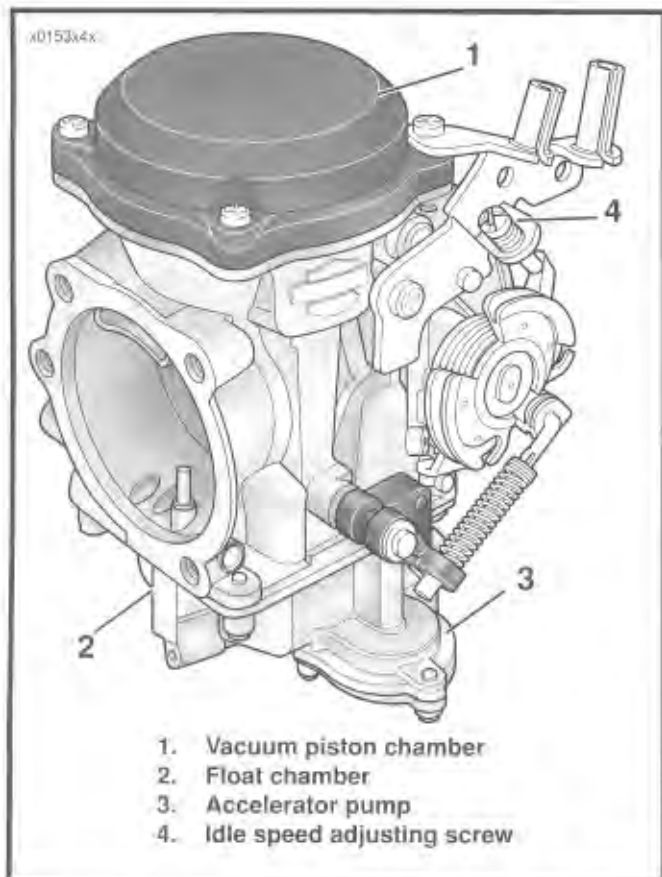

Figure 4-1. Carburetor
GENERAL (Figure 4-1)
See Figure 4-1. With engine at normal operating temperature and enrichener pushed in all the way (enrichener valve closed), adjust idle speed adjusting screw (4) so engine idles at 950-1050 rpm.